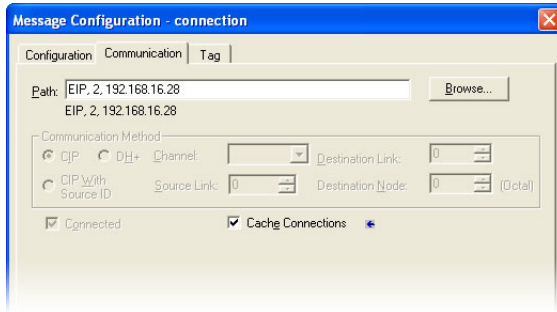

Figure 99: Setting the Communication Path
- d) "Communication" tab settings (refer to Figure 99):